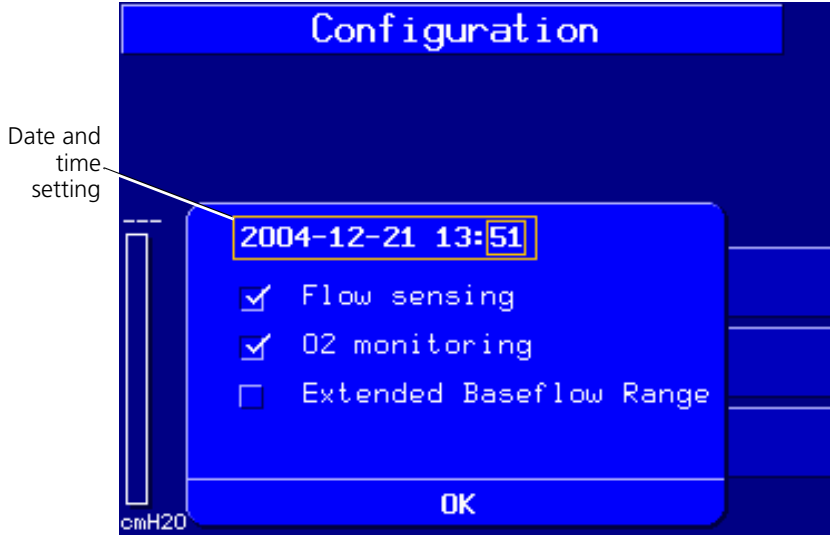

Figure E-10. Utilities window 1, configuration mode
1. Select the utilities function. You will see utilities window 1 (Figure E-10).